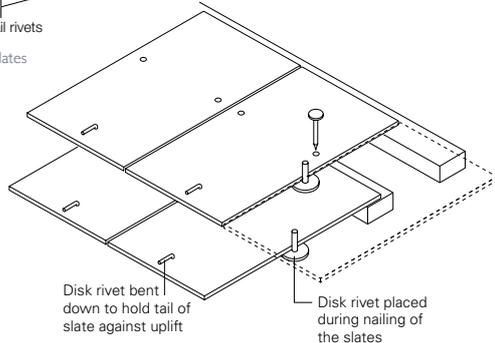

Fig. 10 Rivet placement
- 11 Each full size slate is now fixed with two nails firmly into the slate batten and a rivet is placed between the edges of the slates in the course bow (Fig. 10) and the shank of the rivet projects through the hole in the tail of the appropriate slate in the course above. The shank of the rivet is now bent down slope once the slate is fully nailed, which secures the tail of the slate. Leave a 4-5mm gap between adjacent slates.